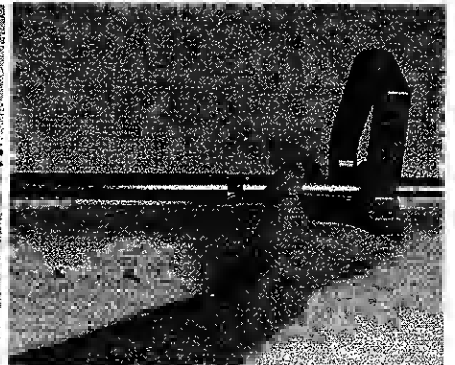

FIGURE 3
3. Push the harness and upper handle tube into the lower tube. Figure 3